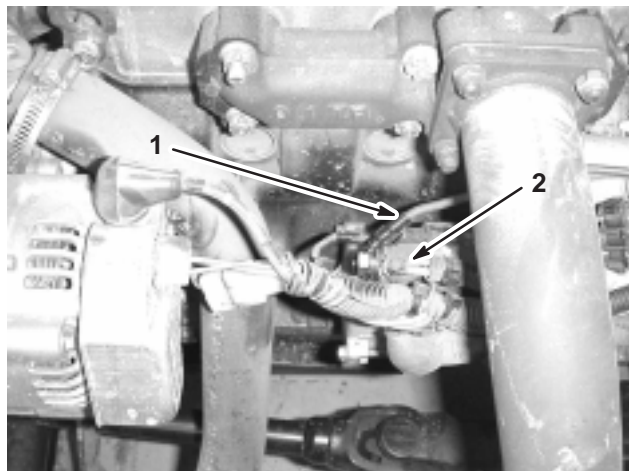

Figure 3
7. Connect the red power wire to the front of the solenoid (Fig. 3), located on the left side of the engine.